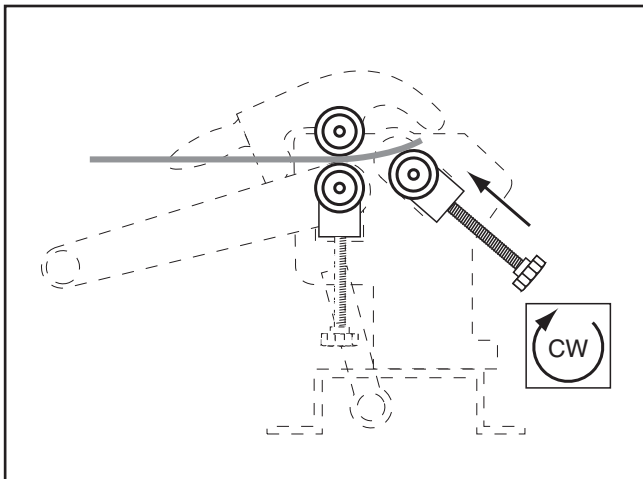

Figure 18. Setting the radius.
3. Turn the radius adjust knobs to lift the rear roller until the desired radius bend is reached (**Figure 18**). Make sure to turn the knobs equal amounts so the rear roller is always parallel with the other rollers. Failure to do so will create a larger radius on one end than the other, resulting in a cone or spiral shape.